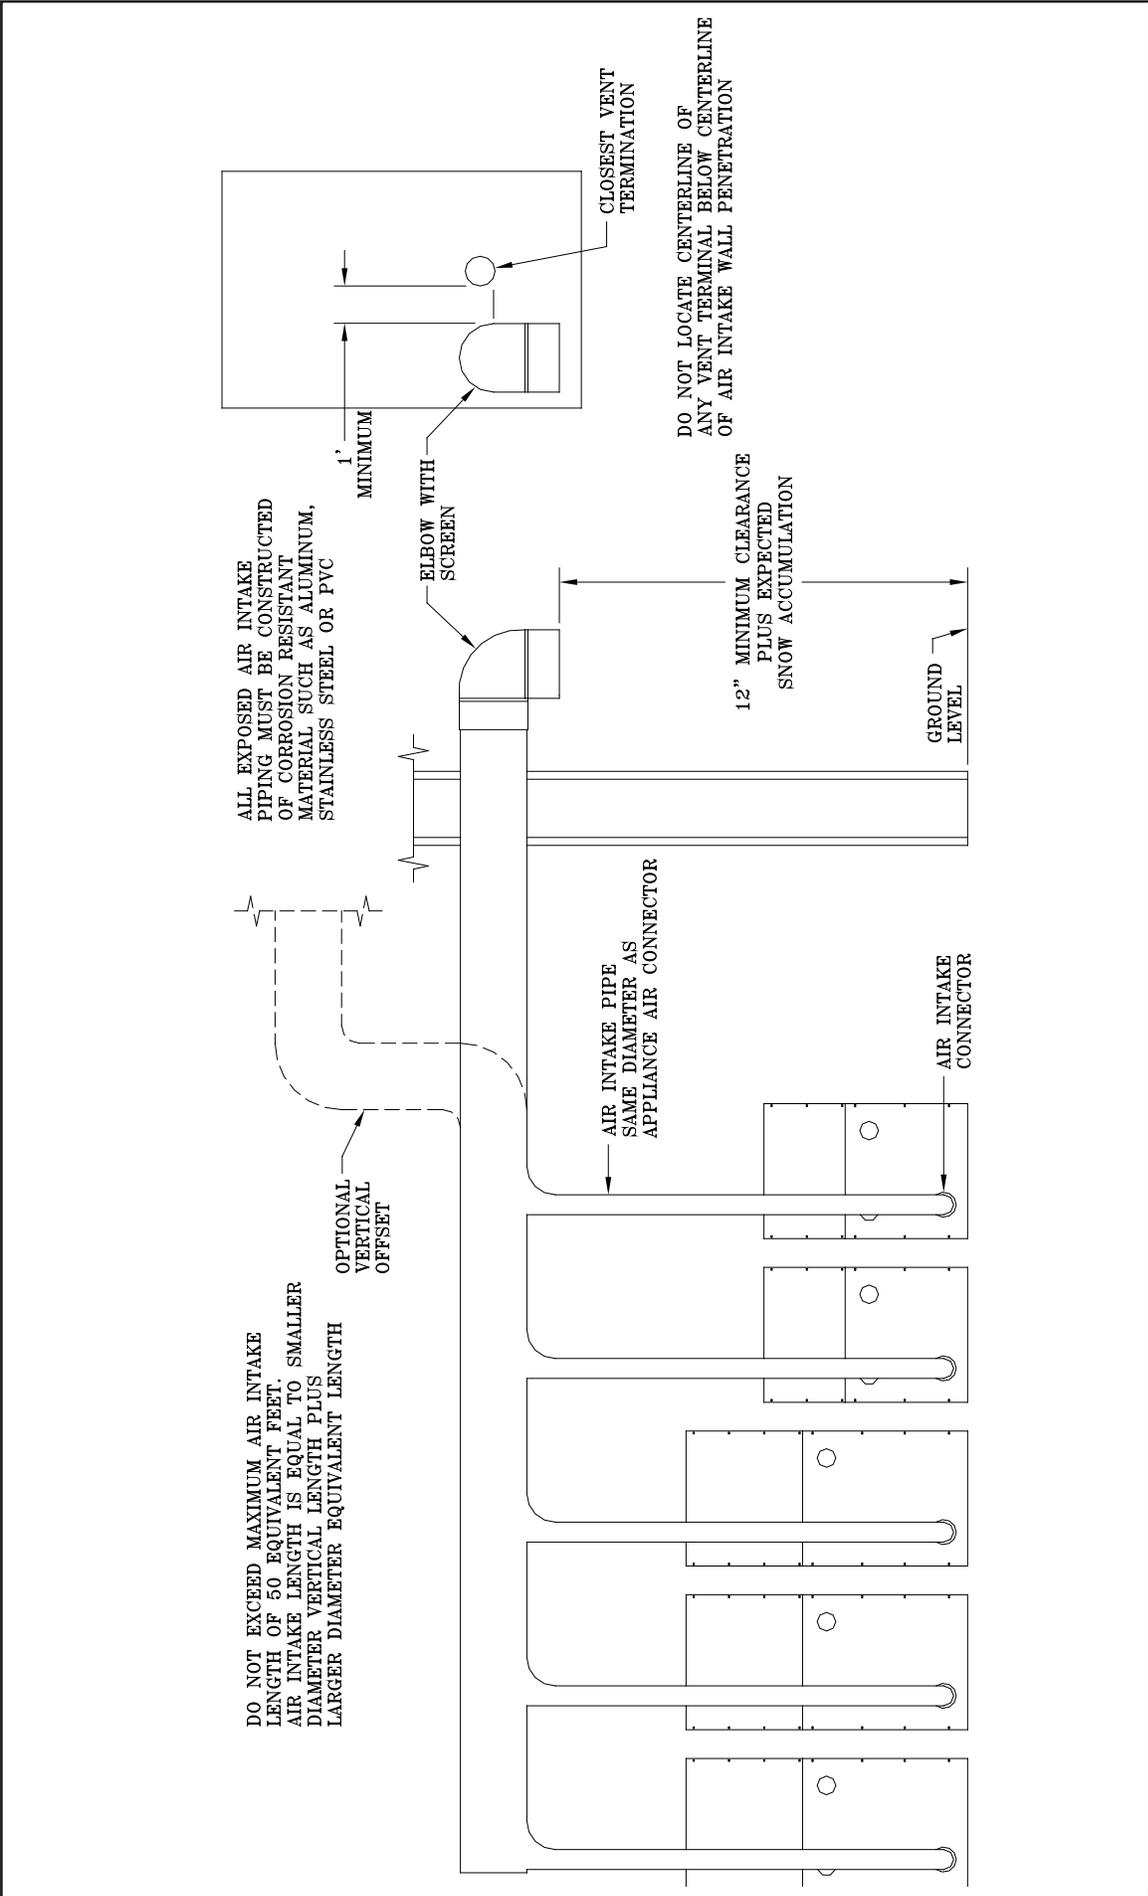

Figure 11: Modular System Horizontal Air Intake Piping
- b. Refer to Figures 11 and 12 for common air intake guidelines for modular Water Heaters.
- d. The maximum air intake length is (50) equivalent feet. Common air intake straight lengths and fittings should be assumed to have the equivalent length the same as an individual air intake pipe, used for a given Water Heater intake pipe diameter.
- f. Vertical air intake pipe must terminate at least two (2) feet above the closest portion of the roof.